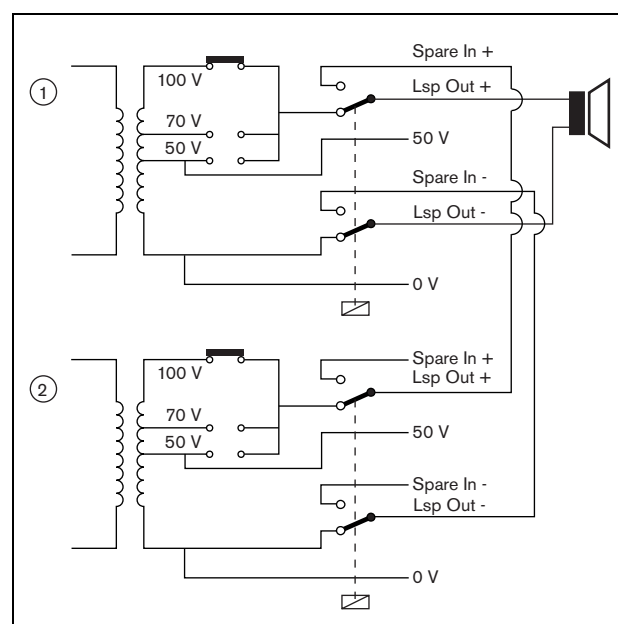
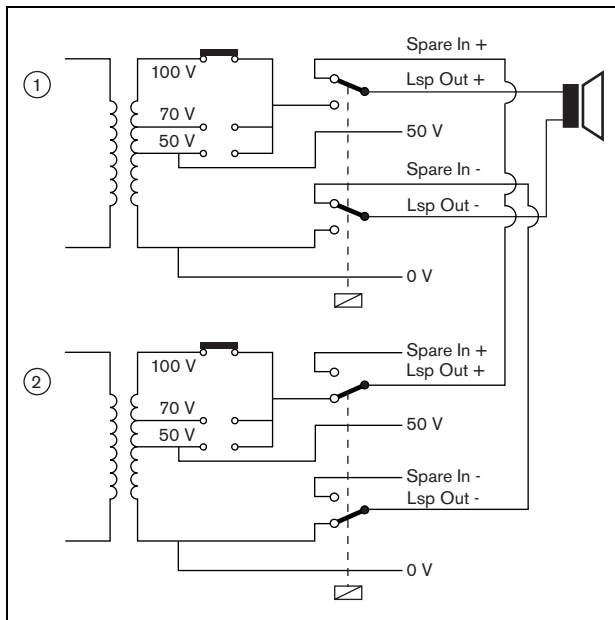

figure 8.7: Power amplifier, before spare switching
figure 8.8: Power amplifier, after spare switching
The actual spare switch is carried out by a relay. See figure 8.7 for the situation before spare switching and figure 8.8 for the situation after spare switching. As long as the main power amplifier (1) functions correctly, this relay is energized (see figure 8.7) and the audio is routed to the loudspeaker line (*Lsp Out+* and *Lsp Out-* terminals). The spare amplifier (2) does not route any audio, since it has no connection to any loudspeaker line.
At the moment the main amplifier (1) goes down, the relay is de-energized and the switches fall into their default positions: *Spare In -* and *Spare In +* (see figure 8.8). This means that the audio output of the spare amplifier (2) is routed to the loudspeaker line through the main amplifier (1). The configuration settings (see section 34.3) of the audio outputs are transferred from the main power amplifier to the spare power amplifier. The configuration settings of the audio inputs, control inputs and control outputs are not transferred to the spare power amplifier.